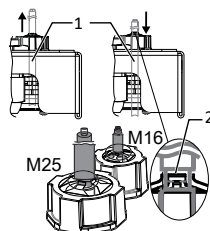

Fig. 14: Connecting the shield to the EMC screw fitting
- Open and close the door completely to check that the cables (1) are not subject to tensile or compressive forces.
- Mark the position for connecting the shield on the clamping ring (2) of the EMC screw fitting.
- Pull the cables back to the shielding point until full shielding is provided by the clamping ring and the connecting cable cannot be displaced. [See figure 14] [▶ Page 10]